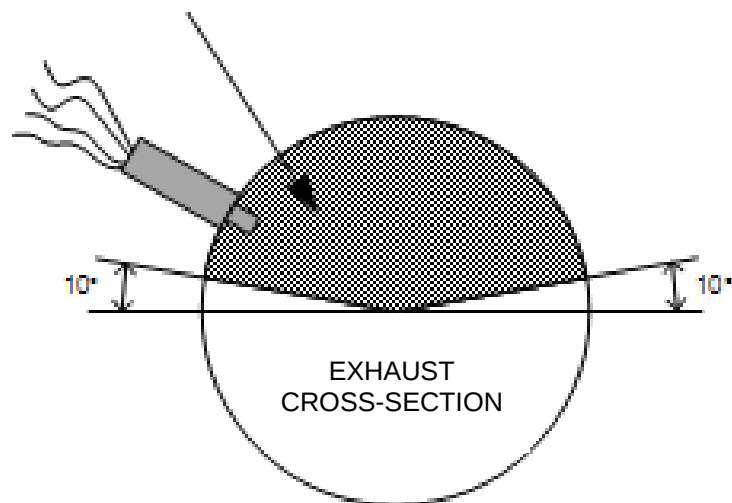

Figure 2-2. StableSense HEGO Exhaust Cross-Section Limits
- Water accumulation inside the sensor will cause premature failure. Mount on top 160° of exhaust piping directed down and within 5° of vertical (see Figures 2-2 and 2-3).